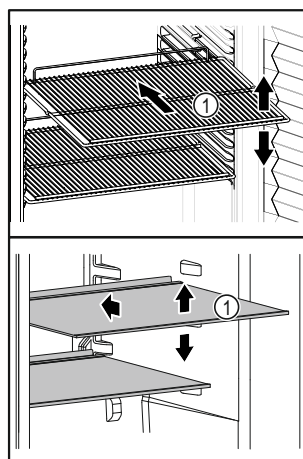

Fig. 18 Example illustration
- ❑ If storage surfaces Fig. 18 (1) are movable, adjust them according to height.